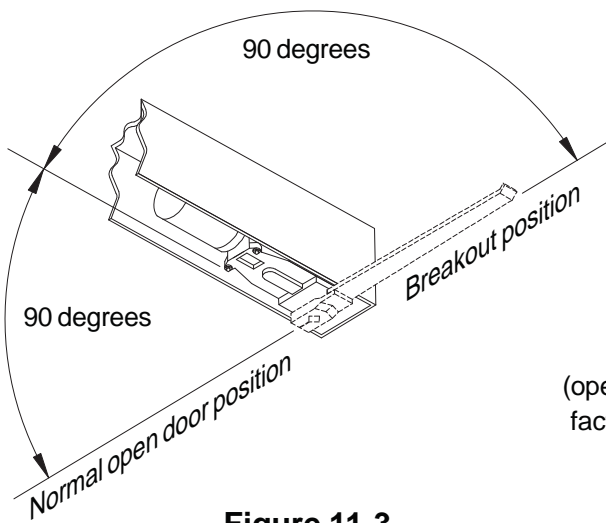
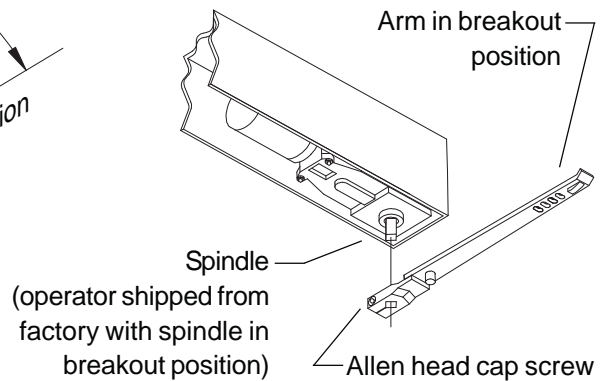

Figure 11-3
Figure 11-4
11.3. Orient the arm in the breakout position (Figure 11-3). Install the arm in the breakout position by pressing the arm onto the spindle until the end of the spindle is flush with the bottom surface of the arm (Figure 11-4). Tighten the Allen head cap screw on the arm (Figure 11-4).
2. Note position of operator spindle. Turn on operator power. Momentarily short activation wires so spindle slowly rotates toward full open position and stops. Continue doing this until spindle reaches full open position (refer to Figure 11-3), then join activation wires together with a wire nut.